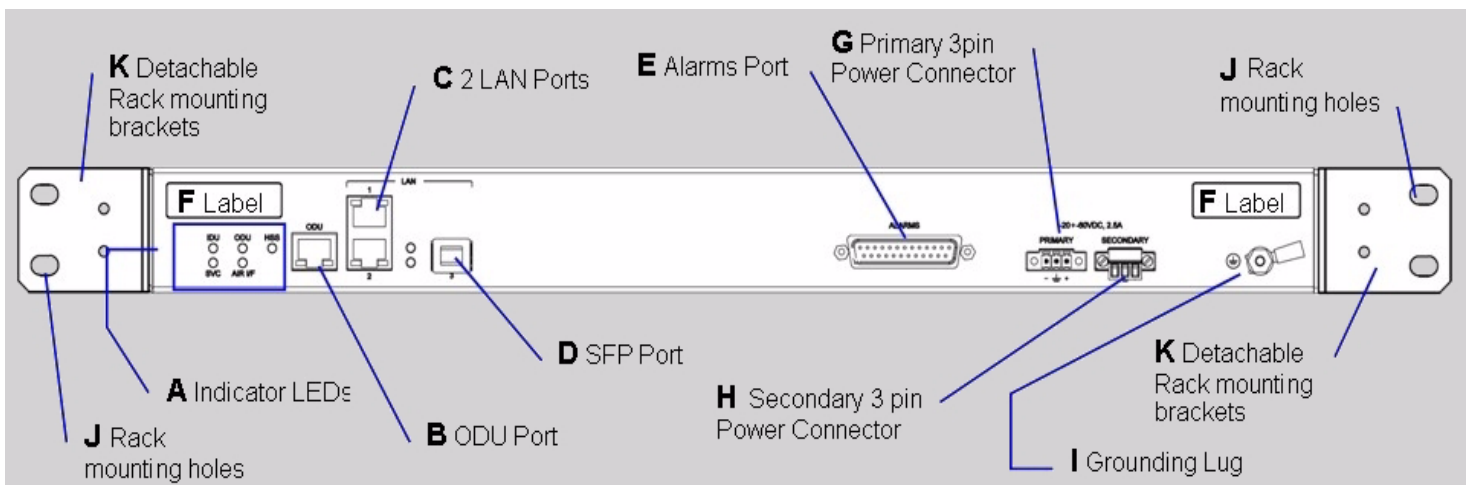

Figure 3-7: IDU-C front panel
The RADWIN 1000/2000 IDUs are all rack mounted, as shown in figure 1-6. A front panel keyed schematic of a rack mounted IDU-C is shown in figure 3-7 below.
Further description of the keyed items in figure 3-7 is shown in table 3-1 below:
➤ **To mount an IDU (using figure 3-7 above):**
The IDU-C has redundant power connection circuits (items G and H in figure 3-7 above). An enlarged schematic of the power connectors is shown in below:
To connect the ODU to the IDU, route the cable from the ODU to the IDU, secure the cable along its path and connect the cable to the ODU RJ-45 connector on the IDU (see item B in figure 3-7 above).
- Connect user switch/router or any other compatible device to the IDU panel RJ-45 ports designated LAN (see item C in figure 3-7 above).